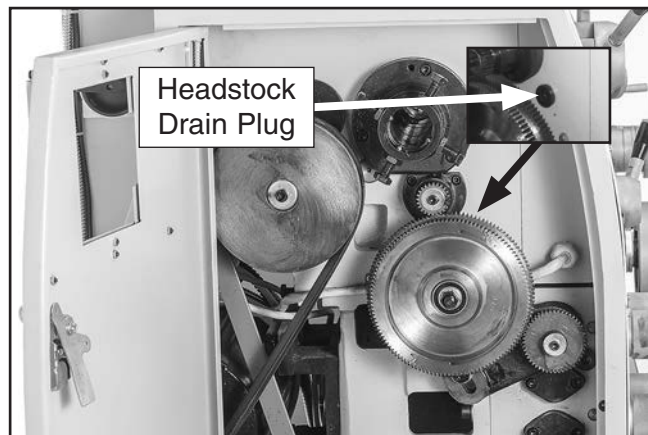

Figure 116. Location of headstock drain plug.
5. Place catch pan under headstock drain plug (see **Figure 116**), then remove drain plug with 6mm hex wrench.